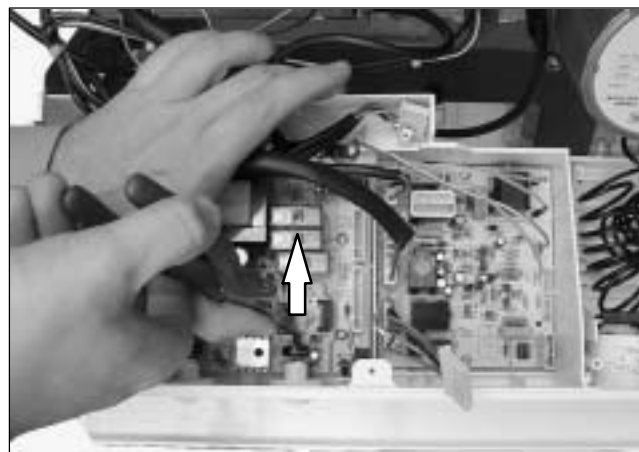

Fig. 38
- 3 Remove the spindles of the c.h. and d.h.w. temperature adjustment knobs by delicately pulling them with pliers in the direction shown by the arrow in Fig. 38.